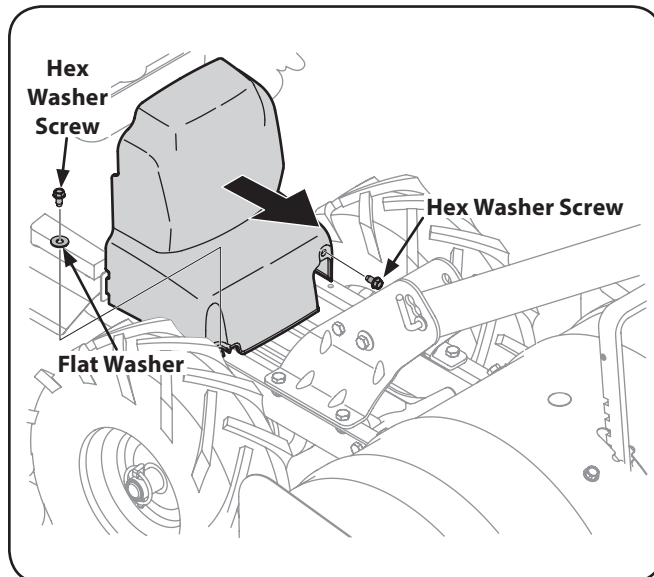

Figure 7-1
2. Remove the belt cover as seen in Figure 7-1, by first removing the two 1/4-20 hex washer screws and one flat washer. Lift the belt cover up and away from the tiller and set in a safe location until reinstallation.